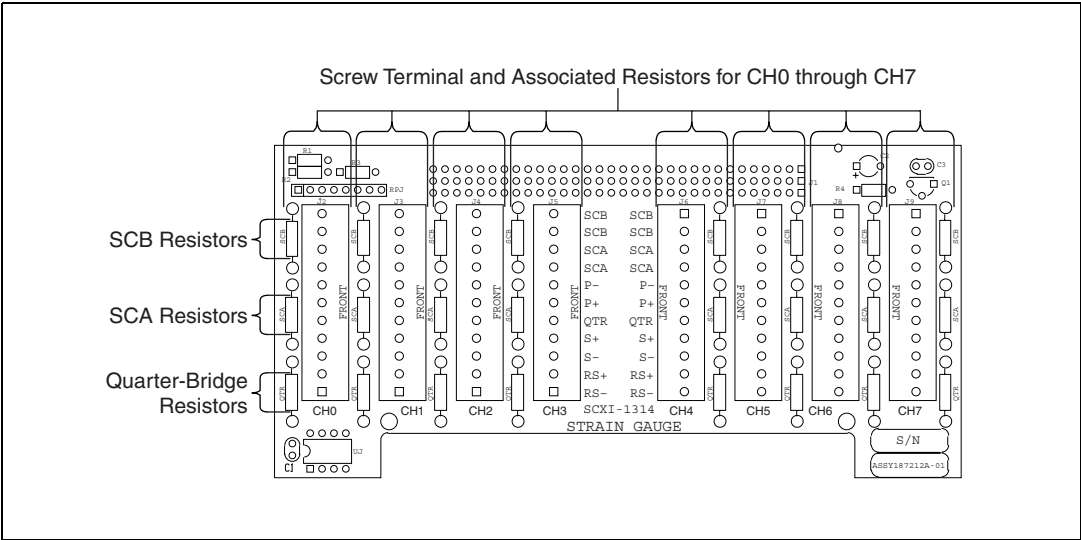

Figure 1. SCXI-1314 Shunt-Calibration Resistors and Quarter-Bridge Resistors
2. Refer to Figure 1 at the end of this document to locate the SCA and SCB resistors on the printed circuit board. SCA and SCB resistors are socketed resistors used for shunt calibration. The SCXI-1314 terminal block comes with a 100 k Ω , 0.1% tolerance resistor installed. However, you can replace this resistor with another one having different resistance or tolerance values. If this resistor is not a 100 k Ω , 0.1% tolerance resistor, modify the formulas in step 4 by replacing the resistance and tolerance values with the corresponding values from your resistor.
2. Refer to Figure 1 to locate the QTR for channel 0 on the printed circuit board. A QTR is a socketed resistor used for quarter-bridge completion. SCXI-1314 terminal blocks come with a $350\ \Omega$, 0.1% tolerance resistor installed. However, you can replace this resistor with another one having different resistance or tolerance values. If the QTR for channel 0 is not a $350\ \Omega$, 0.1% tolerance resistor, modify the formulas in step 4 by replacing the resistance and tolerance values with the corresponding values from your resistor.